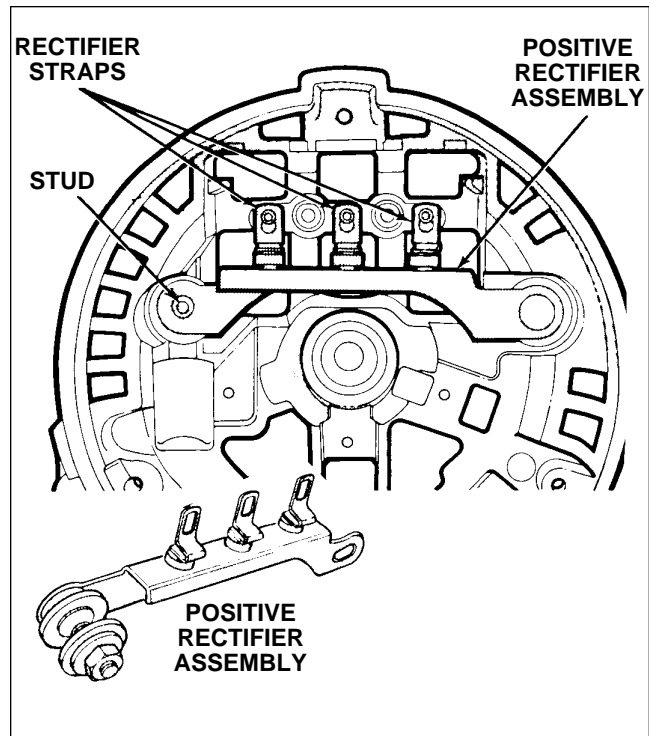

Figure 24-37. Installation of Chrysler Alternator Positive Rectifier Assembly
- h. Install positive heatsink assembly by placing battery terminal through round plastic insulator and capacitor end over heatsink mounting stud. Check three rectifier straps are over studs on terminal block. (Refer to Figure 24-37.)